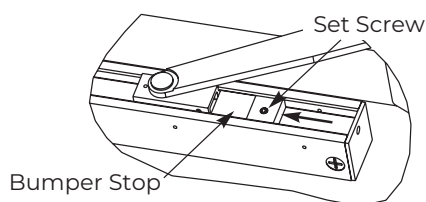

Figure 25
- Tighten set screw in bumper stop so bumper will stay in position. (Figure 25)